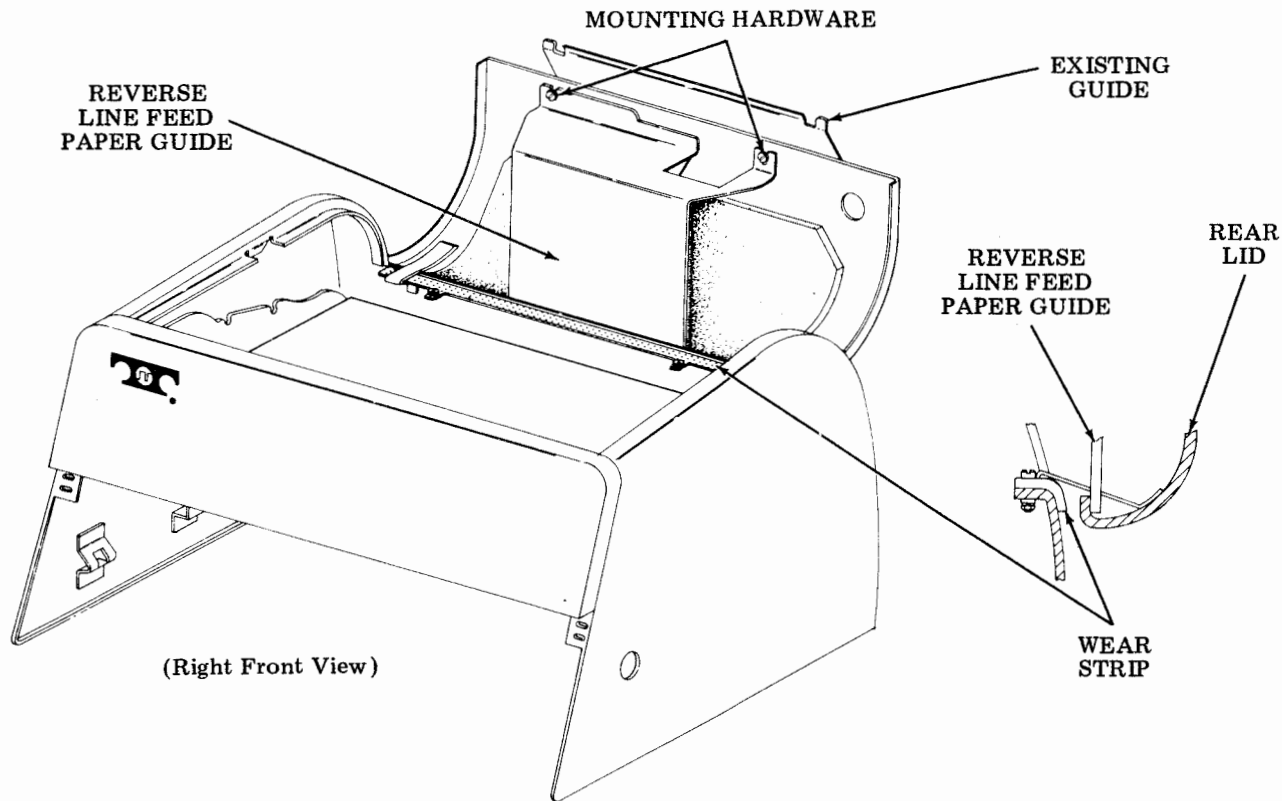
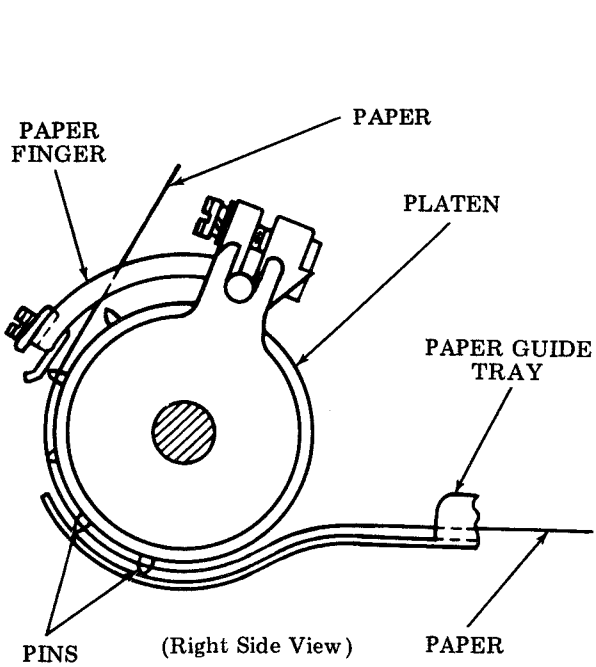

Figure 13 - Paper Guide and Wear Strip
Figure 15 - Paper Routing Assembly - Sprocket Feed
4.16 On sprocket feed typing units, remove the wear strip tied to the print position indicator. Install the wear strip to the rear of the cover assembly using the mounting hardware supplied with the wear strip (Figure 13).
4.17 On typing units equipped with reverse line feed, it is necessary to install a paper guide to the lid assembly. It is to be secured with the same mounting hardware as the existing guide (Figure 13).
4.21 When installing paper in sprocket feed typing units, feed the paper through the slot in the cover between the wear strip and the rear lid (Figure 13). Route the paper over the paper tray under the paper-out lever, and under the platen (Figure 15). Depress the paper release lever on the right side plate of the typing unit. Position the print carriage at a point in the middle of the platen to prevent the paper from